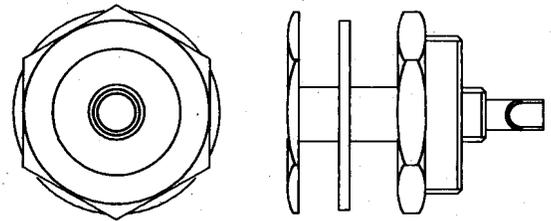

Fig. 6—KS-19692, L1 or L2 Connector
2.06 KS-19692, L1 and L2: The KS-19692, L1 and L2 (Fig. 6) are miniature, 50-ohm, coaxial, snap-on, flush-mounted connectors, furnished with a lockwasher and hex nut for mounting. The front end of the connectors is arranged for solder connection, and for mating with a coaxial connector on the 61A detector. The connector is used in the TD-3 Radio System.